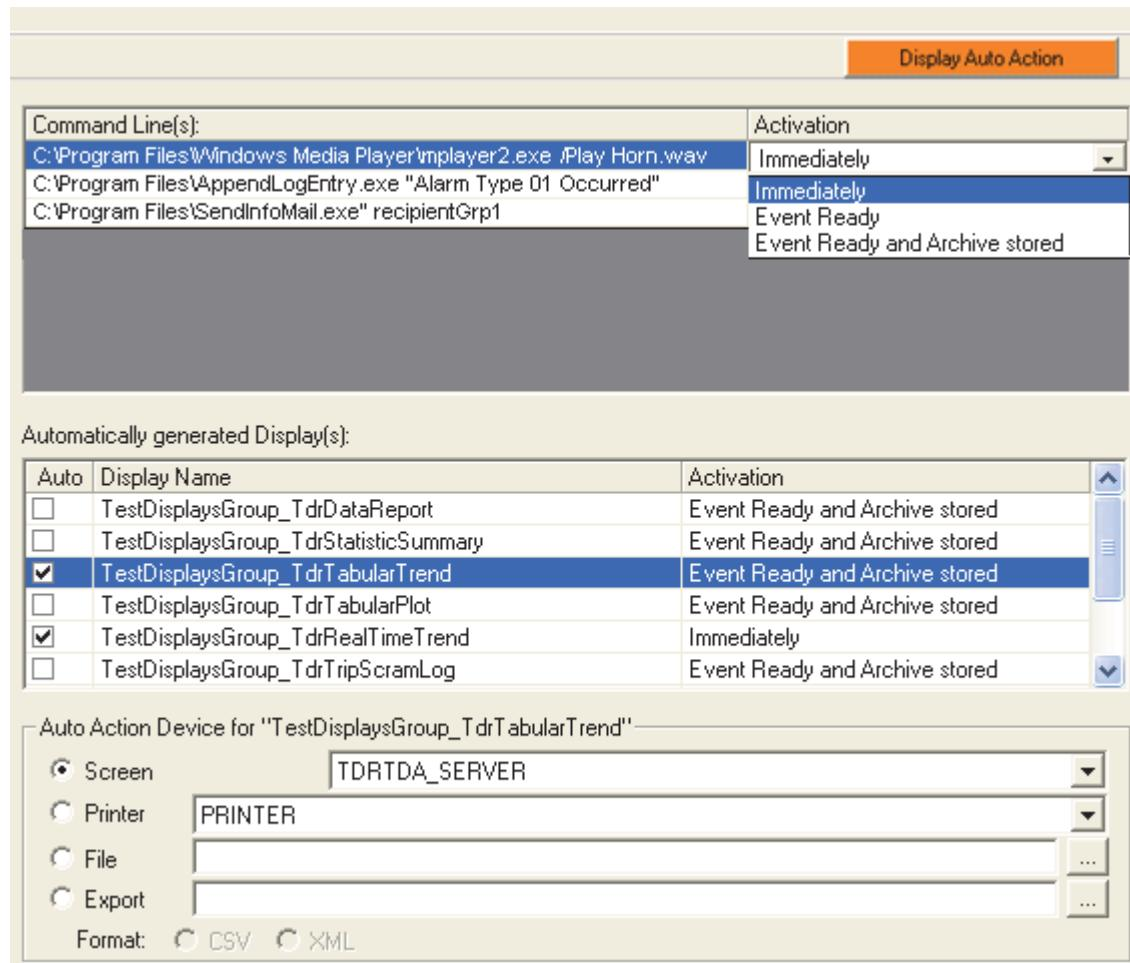

Figure 3-18. Actions Window
In Figure 3-18, the entries **mplayer2.exe**, **AppendLogEntry.exe**, and **SendInfoMail.exe** are examples of programs that can be started. **/Play Horn.wav**, “**Alarm Type 01 occurred**”, and **recipientGrp1** are examples of possible arguments that the programs expect.
- The Actions window opens, as shown in Figure 3-18.